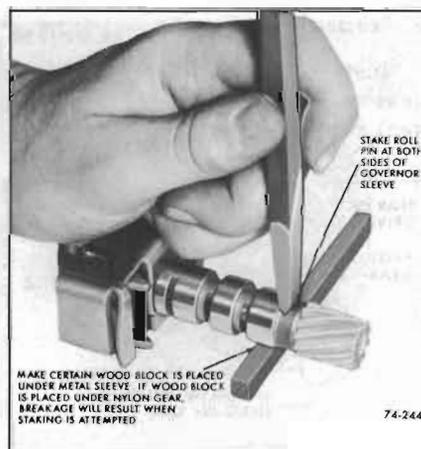

Figure 74-244
3. Support end of governor sleeve (not gear) on a wooden block. Install new roll pin; then using a small chisel, stake pin in place at both ends to prevent pin from becoming loose. See Figure 74-244.